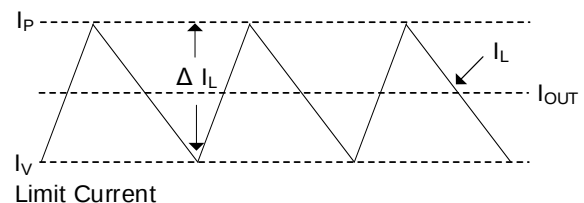

Figure 3 Cycle-By-Cycle Valley Current Detected Control
The G6201 OCP designed is implemented using a cycle-by-cycle inductor's "valley" current detected control circuit, Figure 3 The switch current is monitored by measuring the low-side voltage between the LX pin and GND. The voltage is proportional to the switching current and the on-resistance of the low-side MOSFET. During the period of high-side MOSFET turns on, the high-side switching current increases at a linear rate which is determined by V_{IN} , V_{OUT} , and inductance. And during low-side MOSFET turns on, the low-side switching current decreases linearly. The average value of the switching current is the I_{OUT} current. If the sensing voltage of the low side MOSFET is above the voltage proportional to the current limit, The G6201 keeps the low side MOSFET turning on until the sensing voltage falls below the voltage proportional to the current limit threshold and starts a new switching cycle. The G6201 current limit threshold can be set by a resistor (R_{TRIP}) between the TRIP pin and GND. Once the chip is enabled and VCC exceeds the UVLO threshold, an internal current source I_{TRIP} flows through R_{TRIP} . The voltage across TRIP is the current limit protection threshold V_{TRIP} . The threshold range of V_{TRIP} is from 50mV to 1V. R_{TRIP} can be determined using the following Equation (6)